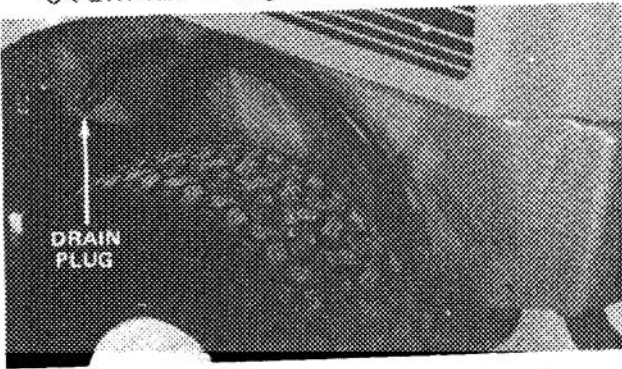

Figure 24
- B. Turn engine off and place drain pan below drain plug (Fig. 24). Remove drain plug and allow all oil to flow into drain pan. Install drain plug after oil stops flowing.